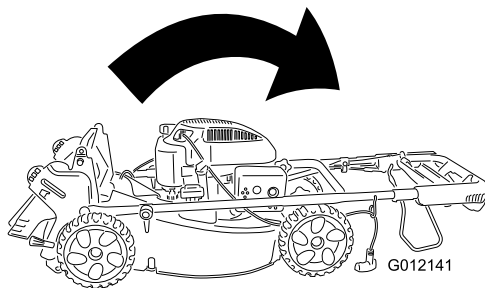

Figure 26
1. Rotate the handle forward (Figure 26).